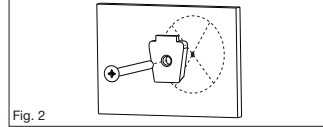

Fig. 2
- Attach Assist Bar mounting bracket to the wall with screws. *DO NOT COMPLETELY TIGHTEN.* (Fig. 2)